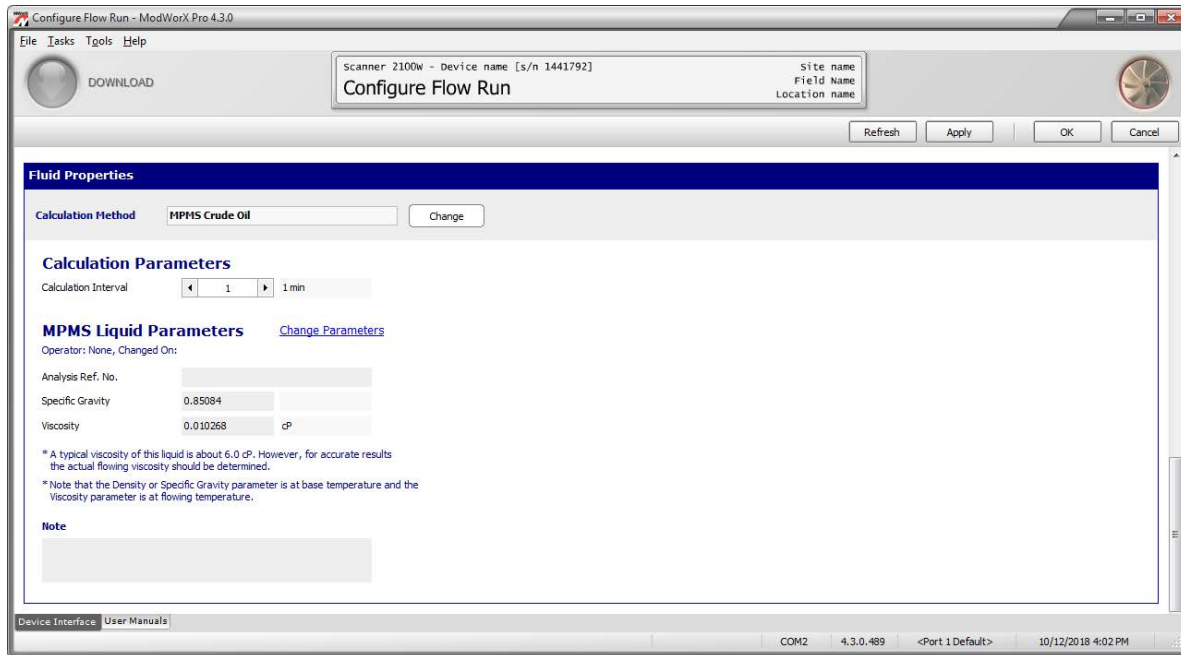

Figure 4.16
- c. If the flow run is configured for liquid measurement, Liquid Parameter settings will be displayed (Figure 4.16, page 60). Edit the parameters as necessary. To change a parameter, click on the blue **Change Parameters** hyperlink and follow the screen prompts.